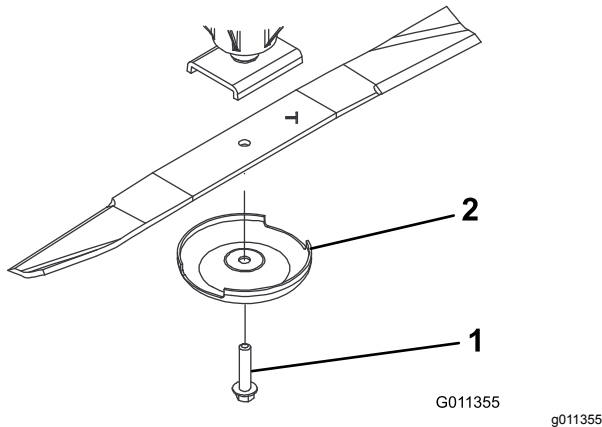

Figure 59
2. Grasp the end of the blade using a rag or thickly padded glove. Remove the blade bolt, anti-scalp cup, and blade from the spindle shaft (Figure 59).
3. Install the blade, sail facing toward the cutting deck, with the anti-scalp cup and blade bolt (Figure 59). Tighten blade bolt to 115–149 N-m (85–110 ft-lb).